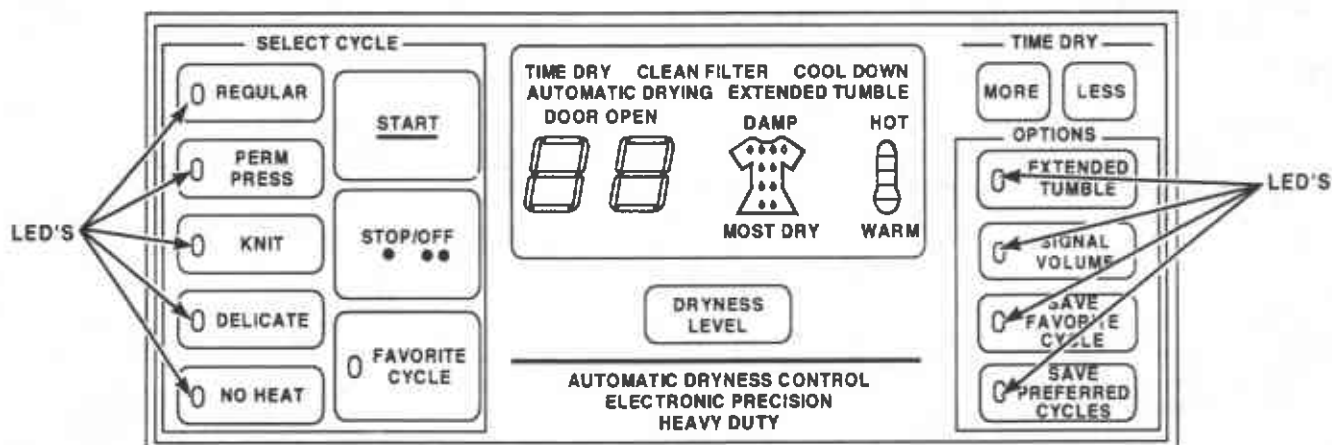

Figure 64
87. CONTROL REPLACEMENT (Figure 64)
The new control is supplied in an anti-static bag and protected by anti-static packaging. Carefully remove control from packaging and bag and snap into place on the stand-offs. Re-connect P1, H3, and E1 through E3, *Figure 64*.